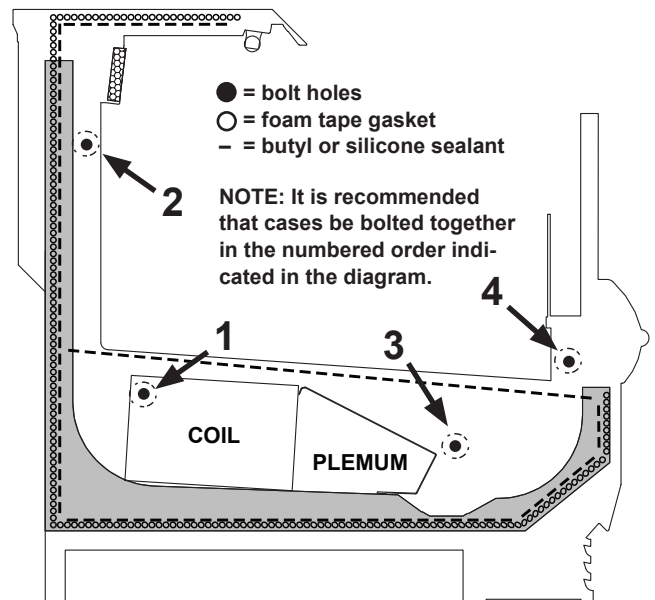

Fig. 2 Bolt holes, foam tape gasket and sealant (O2MZD shown. Bolt hole locations in other models may vary.)
4. Apply the foam tape gasket (supplied) and a bead of butyl or silicone sealant to the end of the first case (Fig. 2). From the opposite end, push the second case to a position that is approximately 6" from the first case, then remove the remaining casters and position case on the shim packs.
5. Push the cases tightly together, then lightly bolt them together through the holes that are provided (Fig. 2). Tighten all the joining bolts until all margins are equal. Be careful not to over tighten.